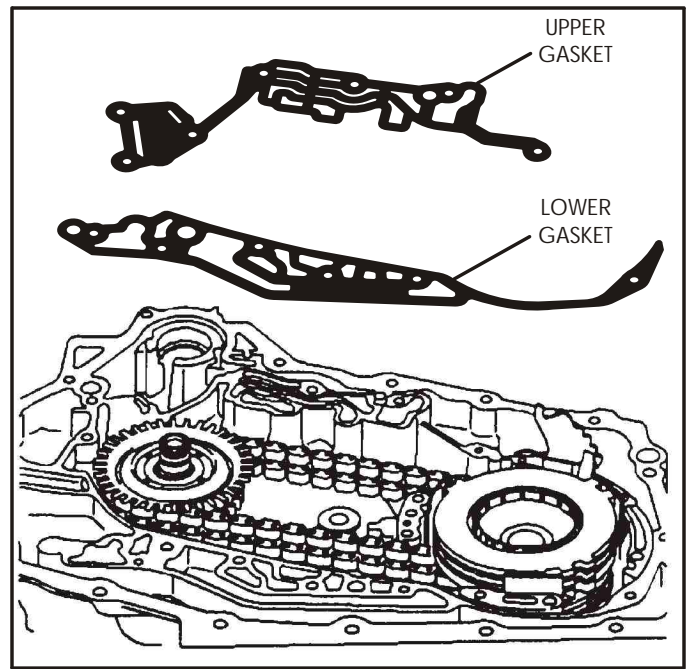

Figure 64
4. Remove and discard the upper and the lower channel plate gaskets (See Figure 64).